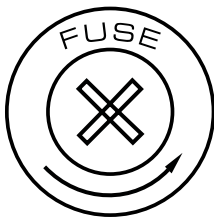

Fig.11
1. Remove the safety cap by a screwdriver (fig.11).